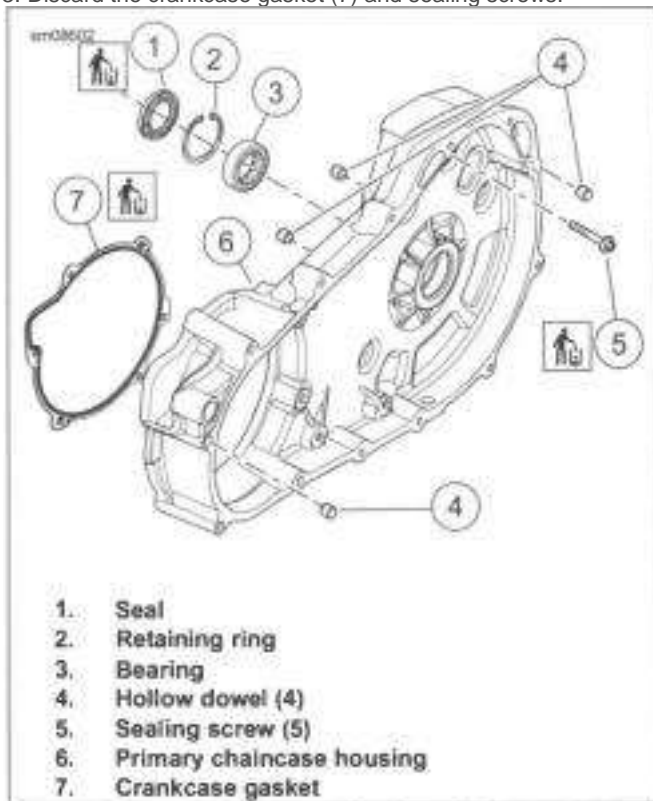

Figure 5-27. Primary Chaincase Housing
1. See Figure 5-27. Remove five sealing screws (5).
2. Remove primary chaincase housing (6).
3. Discard the crankcase gasket (7) and sealing screws.